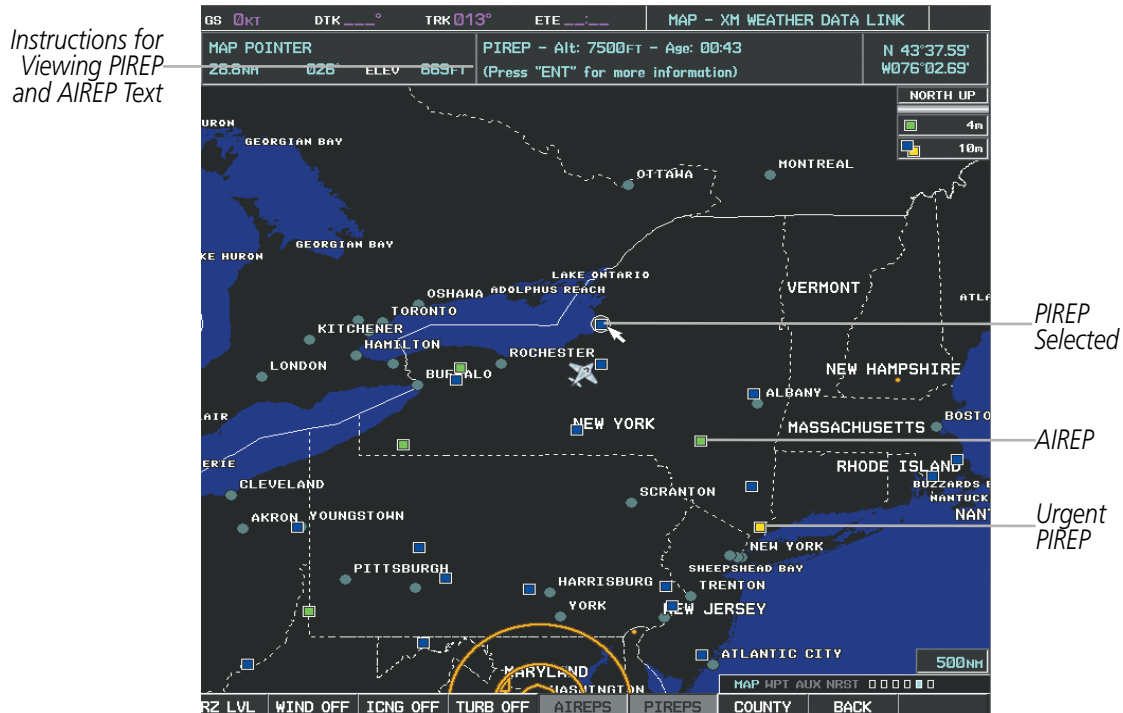

Figure 6-45 AIREPs and PIREPs on the Weather Data Link Page
Pilot Weather Reports (PIREPs) (Figure 6-45) provide timely weather information for a particular route of flight. When significant weather conditions are reported or forecast, Air Traffic Control (ATC) facilities are required to solicit PIREPs. A PIREP may contain unforecast adverse weather conditions, such as low in-flight visibility, icing conditions, wind shear, and turbulence. PIREPs are issued as either Routine (UA) or Urgent (UUA).